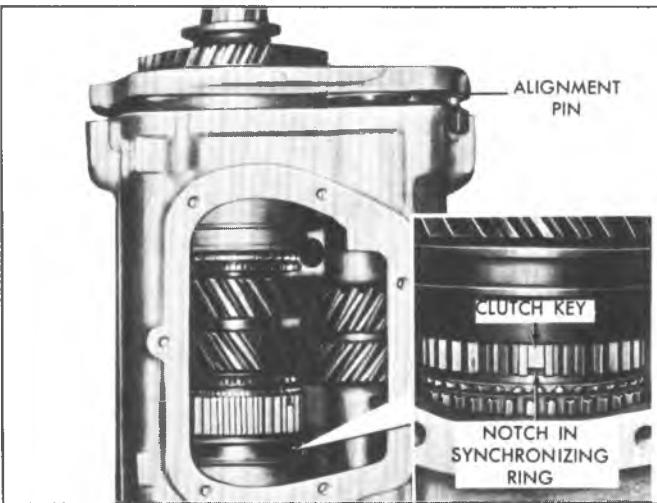

Fig. 18B--Installing Mainshaft Assembly
12. Lower the mainshaft assembly into the case making certain the notches on the fourth speed synchronizing ring correspond to the keys in the clutch assembly (fig. 18B).